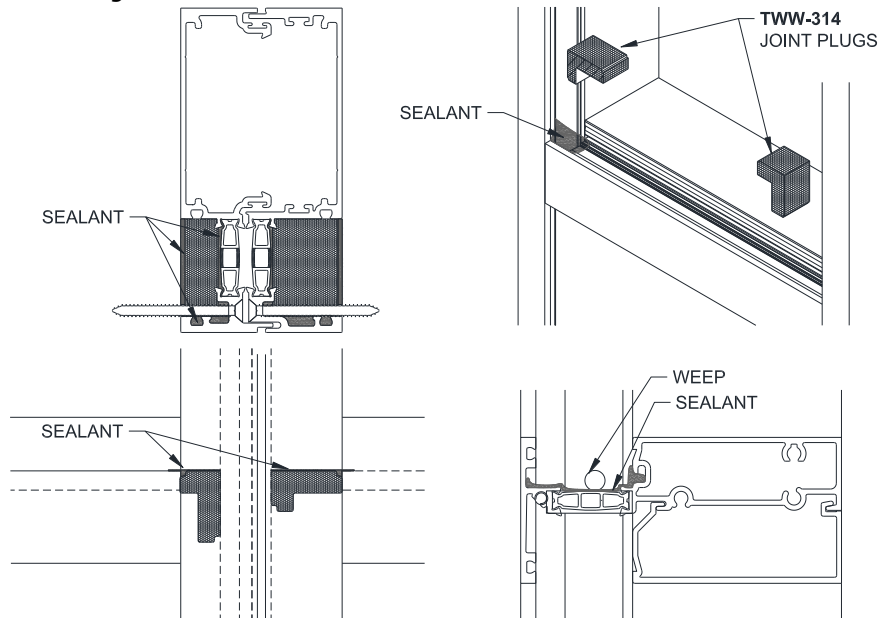

Figure 41: Joint Plug Installation
15.1.1 Install **TWW-314** Joint Plugs at Split Mullions. *Figure 41* shows the various views for Joint Plug installation. Seal all sides that contact the aluminum and place in the opening, sitting flush with the top of the horizontal glazing pocket. Be sure to keep the weep hole free of Sealant to ensure drainage.
15.1.2 Seal the small opening at the front of the Vertical to dam the area completely, as shown in *Figure 41*.